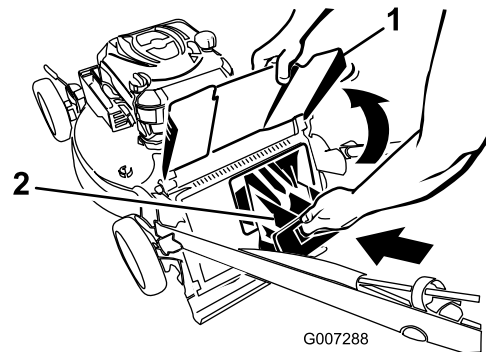

Figure 25
4. Install the rear-discharge plug (Figure 25).